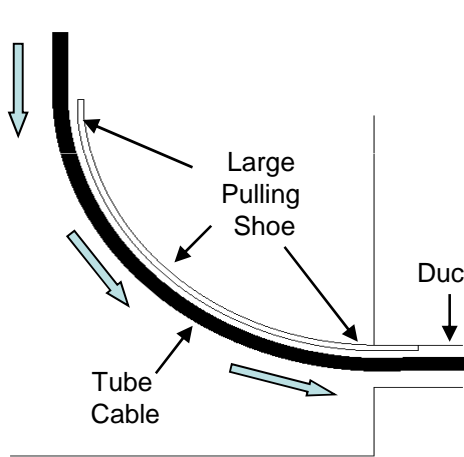
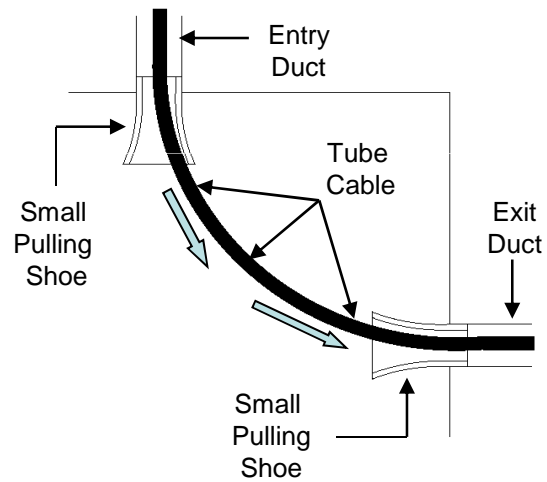

Figure 19
Figure 20
17.1.4 If available, use Large or Small Pulling Shoes to help tube cable negotiate turns and exposed bends. Ensure minimum bend radius requirement of 20X tube cable OD is maintained with respect to the size / radius of Large Pulling Shoe or placement of Small Pulling Shoes. **See Fig. 19 and Fig. 20.**
17.2.6 If available, use Large or Small Pulling Shoes to help tube cable negotiate turns and exposed bends. Ensure minimum bend radius requirement of 20X tube cable OD is maintained with respect to the size / radius of Large Pulling Shoe or placement of Small Pulling Shoes. **Refer to Fig. 19 and Fig. 20.**